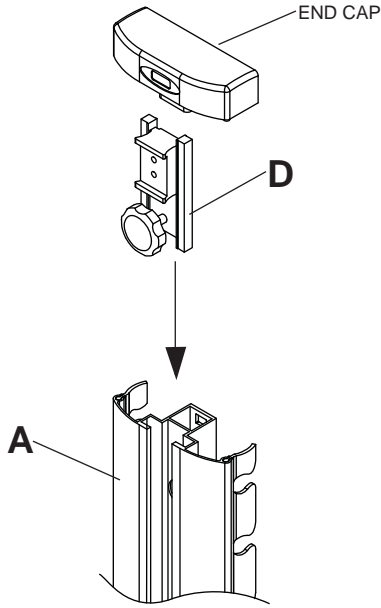

fig. 3.1
- 3 Attach support clips (L) to shelf bracket (J) and slide to desired position as shown in figure 3.1. Securely tighten all set screws using the 2.5 mm allen wrench (N). Do not overtighten screws.